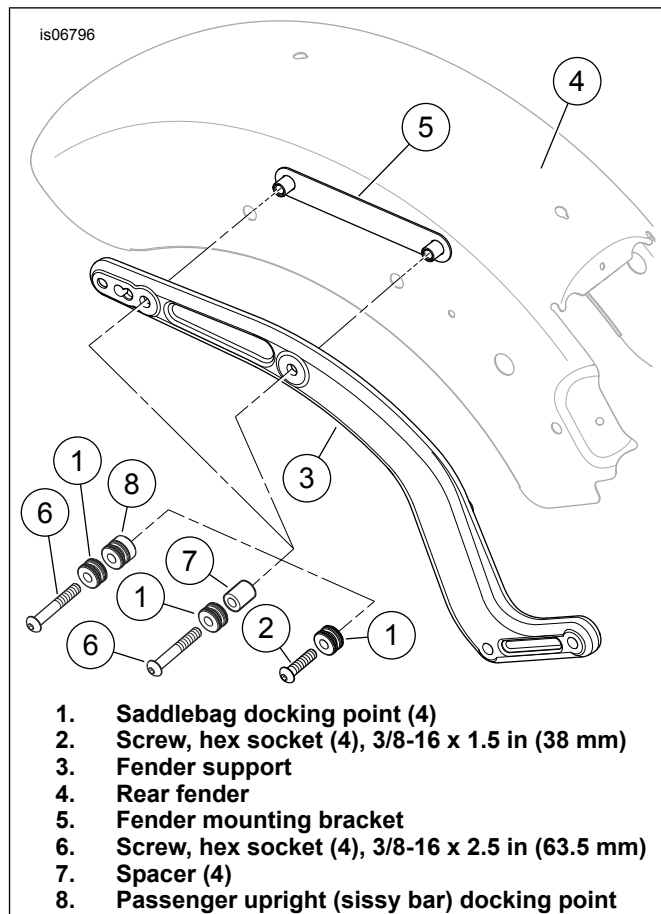

Figure 1. Install FXS Upper Docking Hardware
- a. Get four 3/8-16 x 38 mm (1 1/2 in) long hex socket head screws (3) and docking points (1) from the Docking Hardware Kit.
- b. See Figure 1. Slip a docking point (1) over the threads of each screw (2).
- d. Insert each screw through a hole in a fender support (3), the corresponding hole in the fender (4), and into the fender mounting bracket (5), finger-tight. Tighten the screws to 28.5–36.6 N·m (21–27 ft-lbs).
- e. Get four 3/8-16 x 63.5 mm (2 1/2 in) long hex socket head screws (3), spacers (10) and docking points (1) from the Docking Hardware Kit.
- f. See Figure 1. Slip first a docking point (1), then a spacer (7) over the threads of each screw (6).
- h. Insert each screw through a hole in a fender support (3), the corresponding hole in the fender (4), and into the fender mounting bracket (5), finger-tight. Tighten the screws to 28.5–36.6 N·m (21–27 ft-lbs).
- i. Get four 3/8-16 x 63.5 mm (2 1/2 in) long hex socket head screws (3) and docking points (1) from Docking Hardware Kit 90200389, and docking points from the passenger upright kit.
- j. See Figure 1. Slip first a docking point (1) from kit 90200389, then an upright kit docking point (8, in the orientation shown) over the threads of each screw (6).